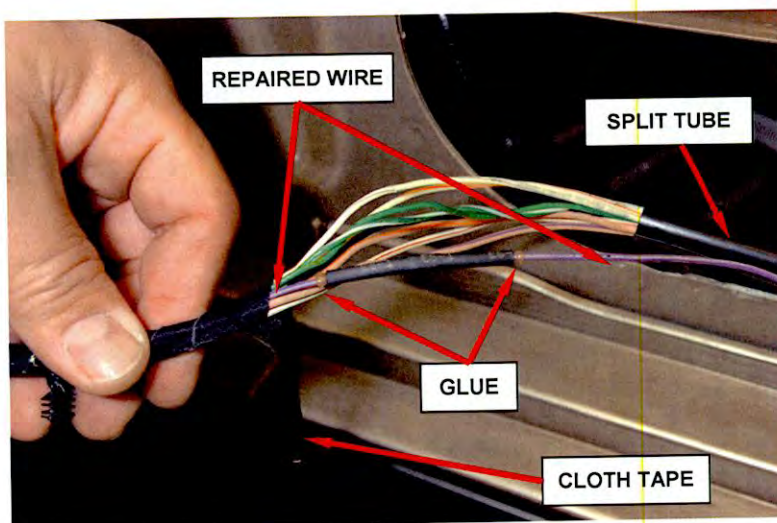

Figure 18 – Shrink Tube
17. Heat the shrink tube with a heat gun until it shrinks around the wire and glue comes out of both ends of the shrink tube (Figure 18).
19. When all chaffed wires have been repaired, position the wires in the convolute/split tube (Figure 18).
- If the power sliding door wiring harness was repaired, tape the wiring harness using the cloth tape that was previously unwrapped in Step 9 (Figure 18). Continue with Step 20 of this procedure.